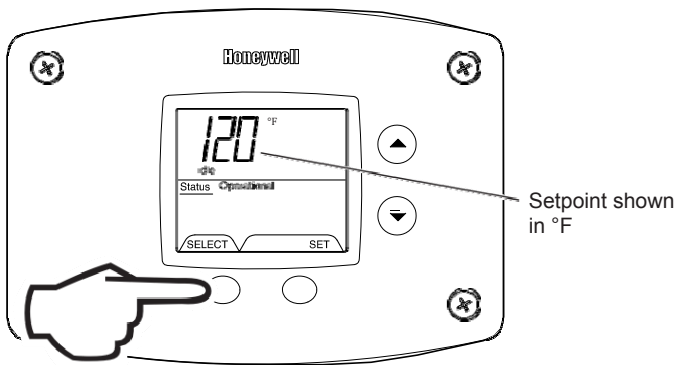

Fig. 25
- Pressing 'SELECT' button will return display to setpoint in format selected (°F or °C) immediately (Fig. 25).